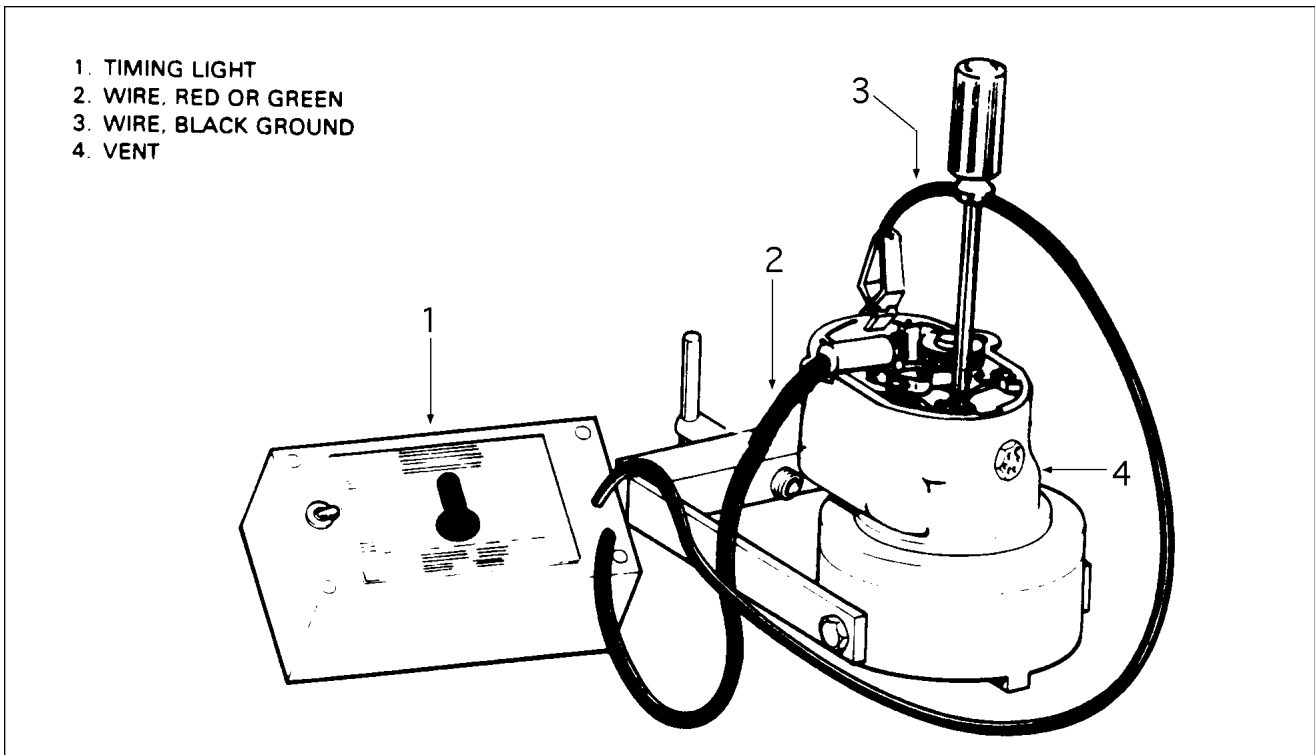

Figure 74-7. Magneto Internal Timing
- q. Attach either red or green wire of timing light to bronze point terminal and black wire to frame of magneto. (Refer to Figure 74-7.) With a screwdriver, adjust points so timing light indicates point openings and points open. Secure points by tightening screws. This gives a point gap of 0.008-0.010 inch. Attach coil wire to vertical bronze male terminal of point assembly.